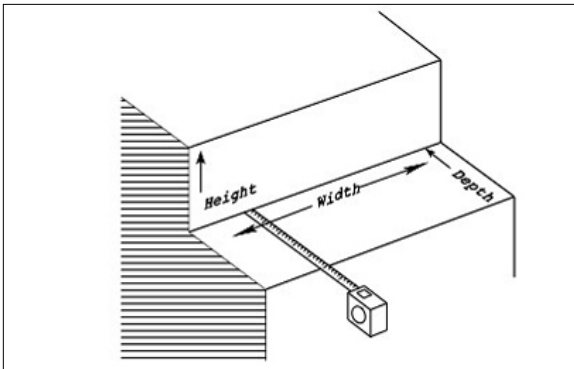

Fig 1
- ◆ Measure the width, depth, and height of the riser, and then cut flooring material to the measured size. See Fig 1.
- ◆ Measure the width and height of the bottom step's riser. Cut the riser portion of Takiron One-piece tread to the measured size for the riser of the bottom step. Trace the cut tread and riser outline on the concrete with a pencil. Measure width and depth and height of the riser, Cut flooring material to the measured size. See Fig 1, 13 & 14.